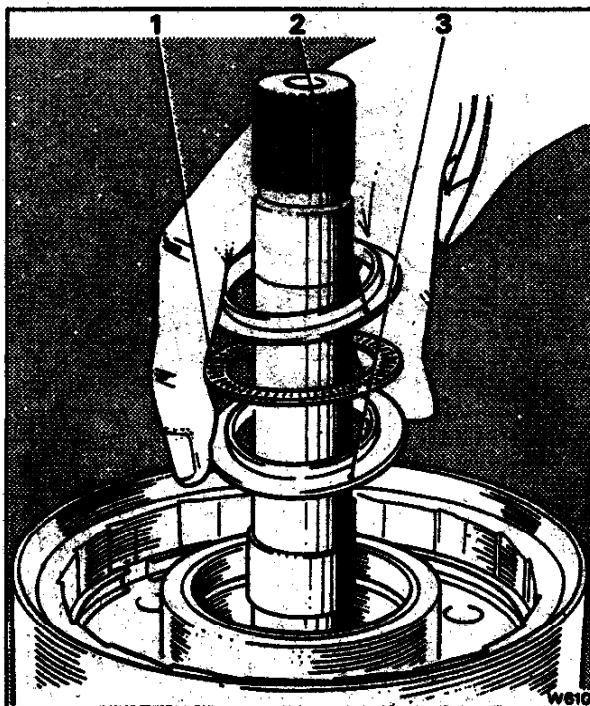

Fig. T121 Fitting the races and thrust bearing to the sun gear
20. Smear the centre support to sun gear thrust races and bearing with petroleum jelly and fit as follows (see Fig. T121).